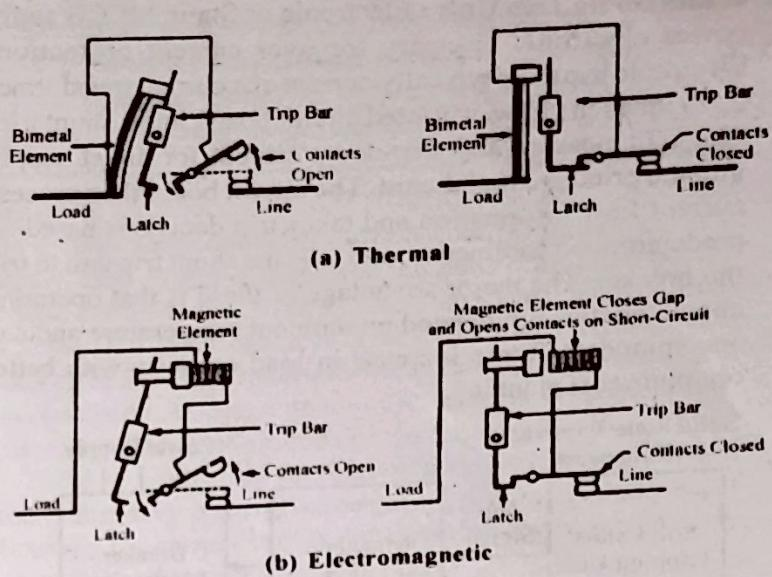

Fig. 4 : MCCB Trip Action
1. Thermal Trip Unit : During Overload, the excess current flowing through a piece of bimetal is heated. The bimetal is made with two strips of different metal bonded together. As shown in fig. 4(a), heat will cause the bimetal to bend. The bimetal strip having the greater rate of expansion is on the outside of the bend curve. To trip the CB, this bimetal must deflect enough to physically push the trip bar and disconnect the circuit.
2. Electromagnetic Trip Unit : Short-circuit trip action uses an electromagnetic winding, which is connected in series with the load current. During short circuit, the current flowing through the windings increase, which increases the magnetic field strength of the electromagnet and attracts the armature, as shown in fig. 4(b). Due to this, the armature rotates the trip bar and circuit breaker trips. The only time delay factor involved in this process is the time required by the contacts to physically open and extinguish the arc.